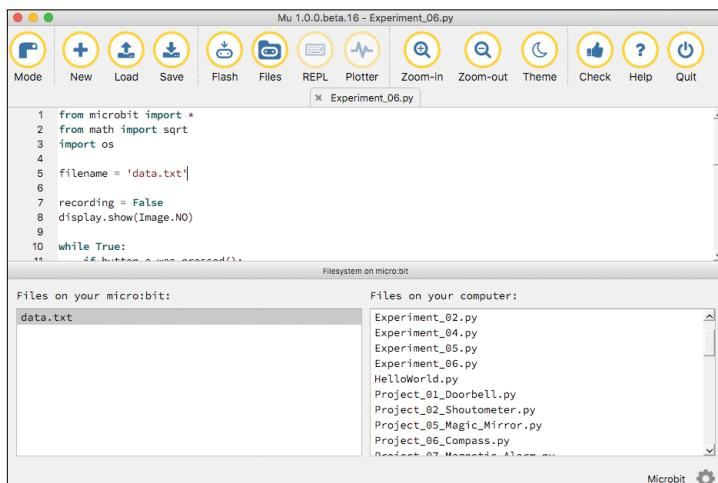

Figure 5-9: Mu's File feature in action
- To transfer the file containing the readings to your computer, use Mu's *Files* feature. Connect your micro:bit to your computer with a USB cable and click the **Files** icon in Mu's toolbar (Figure 5-9).
The bottom of the window now has two columns. On the left are the files saved on the micro:bit. In Figure 5-9, there is only one file, *data.txt*. On the right are the files in Mu's code directory, which is in your home directory under *mu code*.